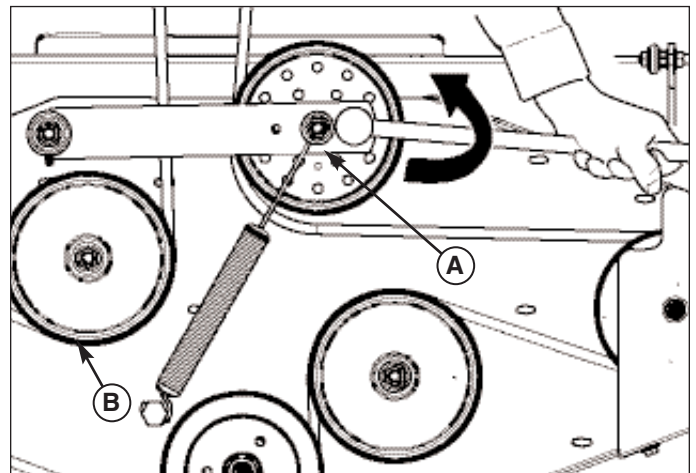

Figure 1. Mower PTO Belt
2. Using a 1/2" breaker bar, place the square end in the square hole located in the end of the idler arm (A, Figure 1). Carefully rotate the breaker bar counter-clockwise, which will relieve the tension on the belt exerted from the idler arm.
3. Slide the drive belt over the edge of the stationary idler pulley (B). Carefully release the tension on the breaker bar until the idler arm stops against the center spindle pulley.